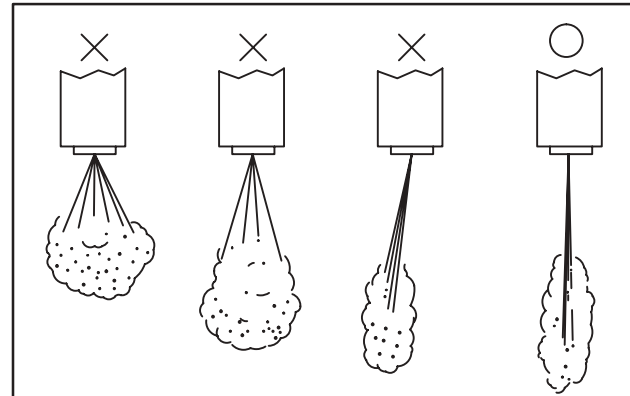

Fig. 17 – Checking Spray Pattern
4. Check spray pattern of nozzle, Fig. 17.